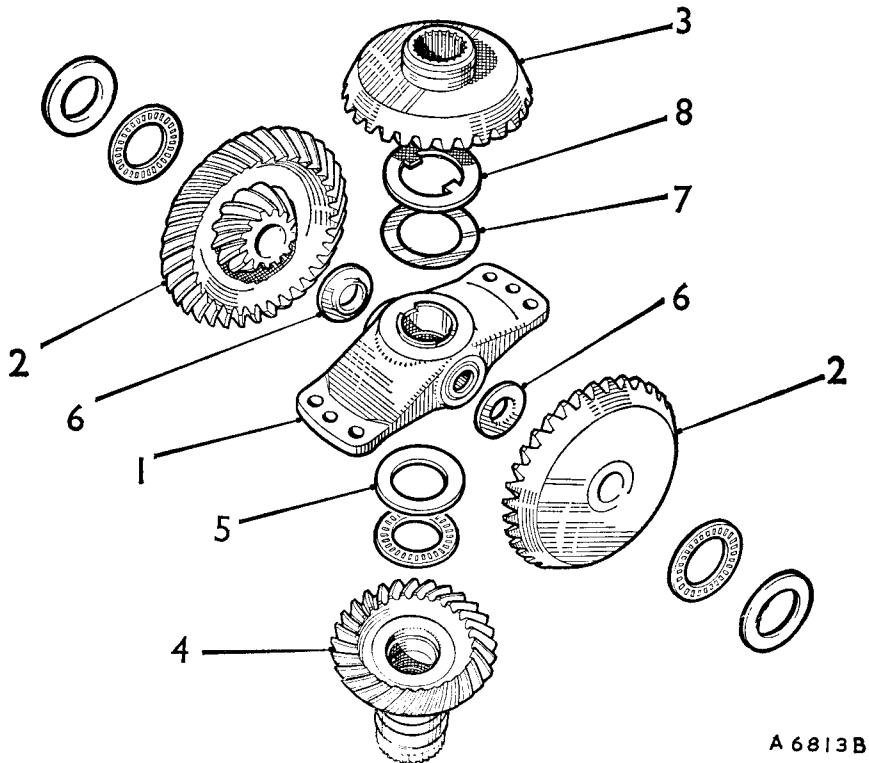

Fig. Fa.44
(20) Assemble the forward output gear with its bi-metal washer and the .004 in. (.10 mm.) shim (if fitted) interposed between the bi-metal washer and the carrier (see Fig. Fa.44).